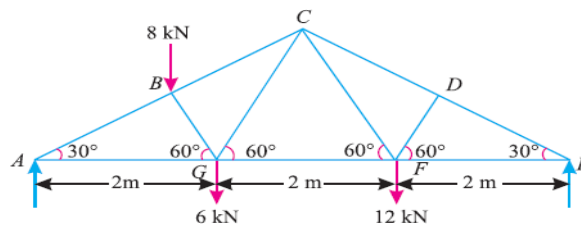

Fig. 5.
- 9 An inclined truss loaded as shown in Fig. 5. Determine the nature and magnitude of the forces in the members BC, GC and GF of the truss. **12M**